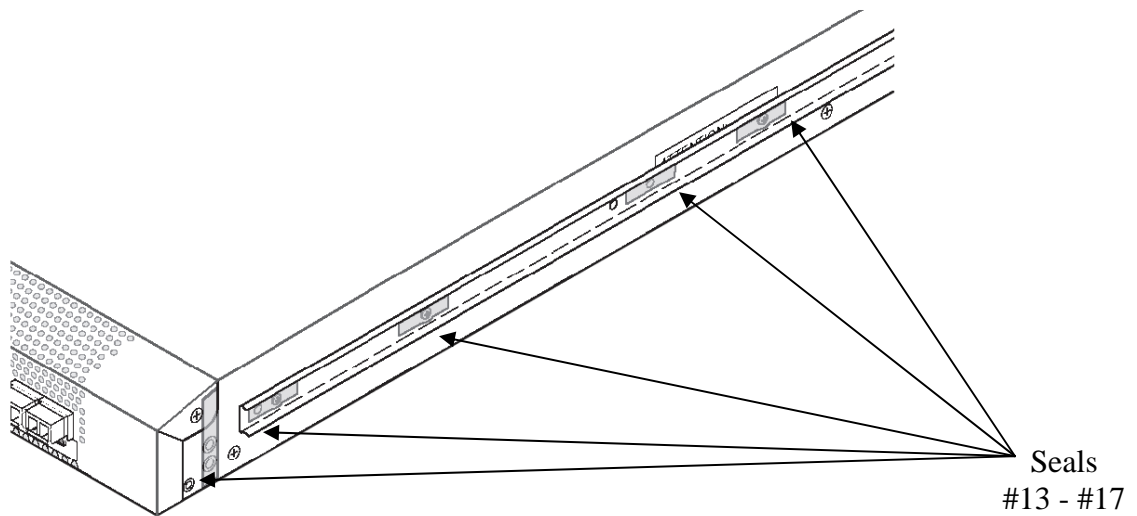

Figure A.3 - Right Side Seal Locations
2. Repeat using five (5) seals (#13 - #17) on the right side of the enclosure. The seal arrangement is the same as the left side. Reference Figure A.3.